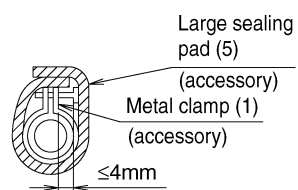

Fig. 12
Referring the figure below, insulate the metal clamp (1) and drain hose (2) using the included large sealing pad (5). (Refer to Fig. 12)